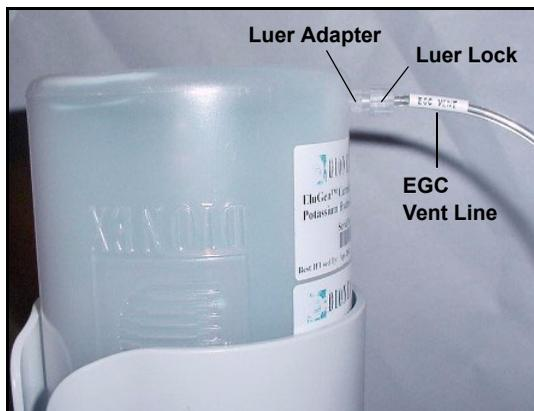

Figure B-42. Installing the EGC Vent Line
4. Twist the luer lock and EGC vent line into the luer adapter (see Figure B-42).